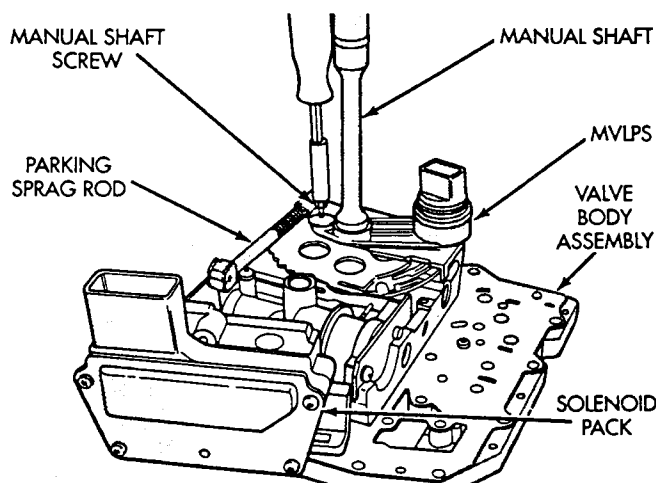

Fig. 1 Manual Shaft Retaining Screw
- (1) Disconnect the MVLPS connector.
- (2) Remove valve body assembly from vehicle. Refer to "Valve Body" in this section for procedure.
- (3) Remove manual shaft retaining screw (Fig. 1).